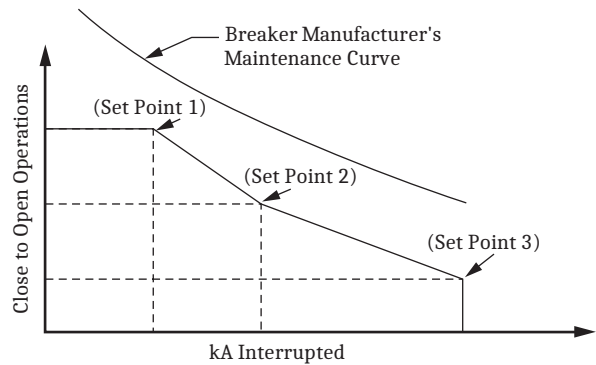

Figure 32 Breaker Contact Wear Curve and Settings
- Every time the breaker trips, the relay integrates interrupted current. When the result of this integration exceeds the threshold set by the breaker wear curve (Figure 32), the relay can alarm via an output contact or the optional front-panel display. With this information, you can schedule breaker maintenance in a timely, economical fashion.